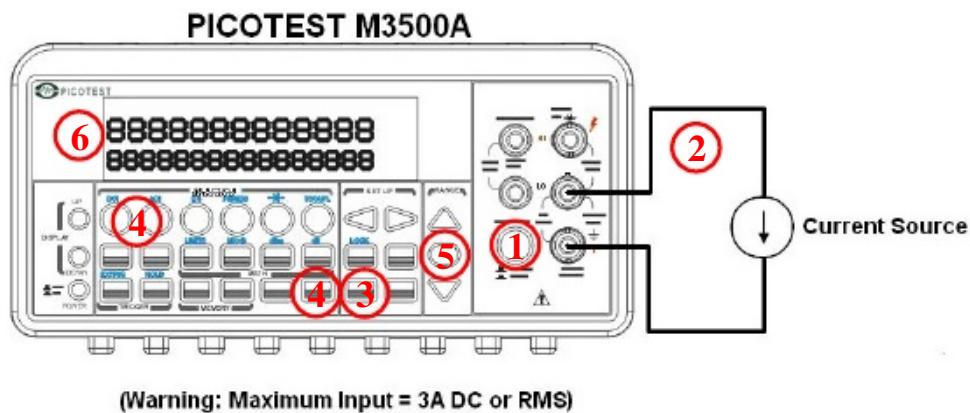

Figure 3-4
The ranges for DC current measurements in M3500A are 10mA, 100mA, 1A and 3A. For AC current measurements, the range is 1A with a sensitivity of 1 μ A to 3A AC-Coupled TRMS with a sensitivity of 10 μ A. **Figure 3-4** and **3-5** show you how to measure DC/AC currents in M3500A.
- ① Selects input signal connections on front or rear panel.
- ② Connect the test leads to the terminals as shown in **Figure 3-4**.
- ③ Set RESOLUTION of DCI (Refer to 4.1.3), BANDWIDTH of ACI (Refer to 4.1.2.1) or skip this step if default is to be used.
- ④ Press SHIFT+DCV or SHIFT+ACV buttons for DCI or ACI measurement.
- ⑤ Select the auto-range function by pressing AUTO button on the front panel or use Δ and ∇ buttons to select desired range.
- ⑥ Connect test leads to your source signal and observe the reading shown on the display. If the input signal is greater than the allowed range, an overflow message "OVLD" will be displayed.